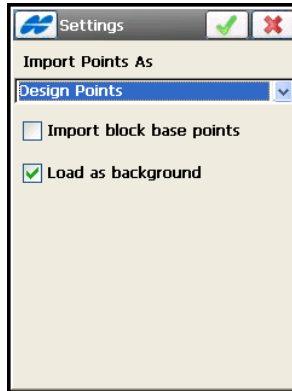

Figure 5-15. Settings
2. Tap the **Settings** button. On the Settings screen, select the following drawing styles to represent points and lines (Figure 5-15 on page 5-11).